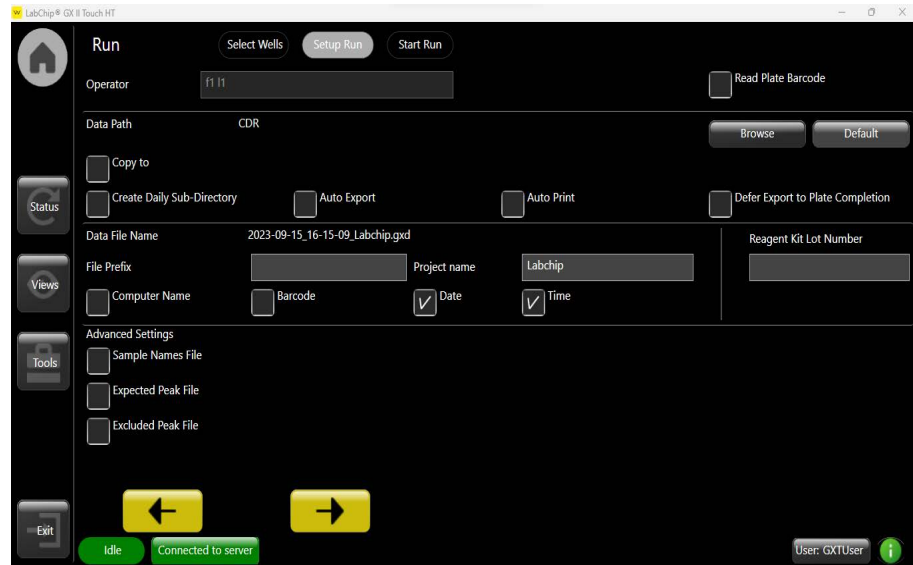

Figure 12. Setup Run Tab
- 3 Touch the **Green Arrow** button. The **Setup Run** tab (Figure 12 on page 19) opens.